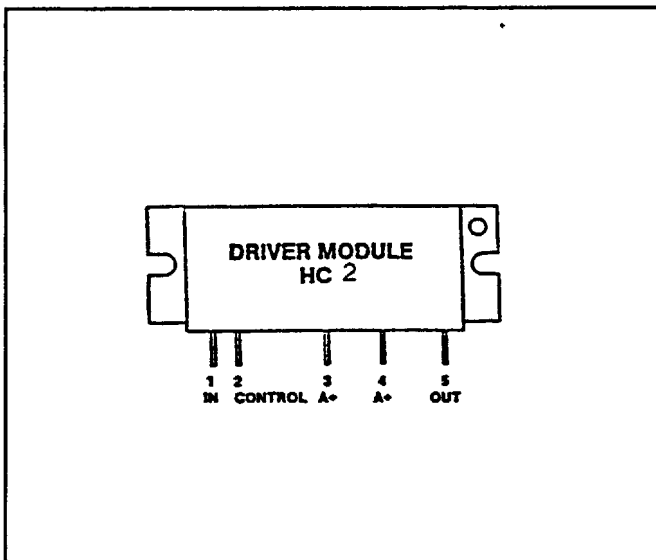

FIGURE 2 - DRIVER LEAD IDENTIFICATION
1. Position the module properly, aligning the screw holes and leads with the printed board. Trim the new HC leads (if required) to the lead length of the removed HC (see Figure 2).